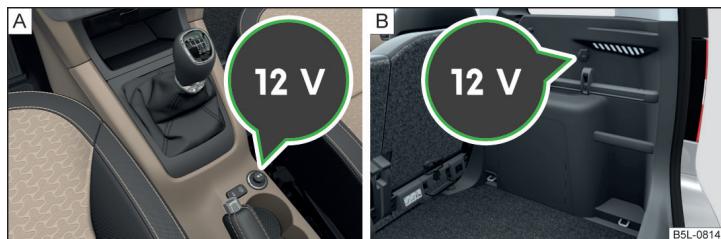

Fig. 85 Cover for the 12-volt socket: in the front centre console / in the luggage compartment
### Overview of the 12-volt socket » Fig. 85
- Remove the cover on the power socket » Fig. 85 - **A** or open the cover on the power socket as appropriate » Fig. 85 - **B**.